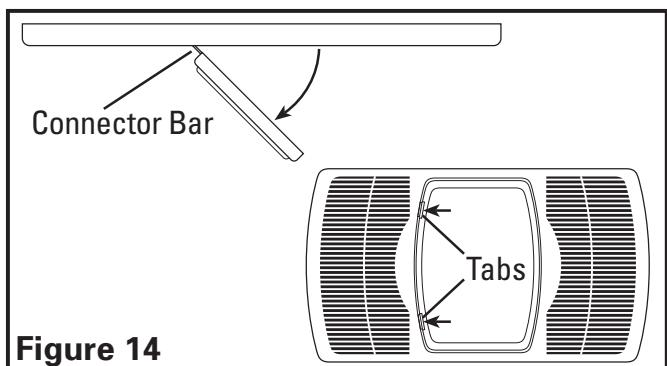

Figure 14
3. **Changing the Light Bulb:** Disconnect power to the unit. Open light lens by pushing in on the two tabs of light lens and pulling outward from lens. The lens will swing open on the connector bars. DO NOT remove the lens from the grill (**Figure 14**).